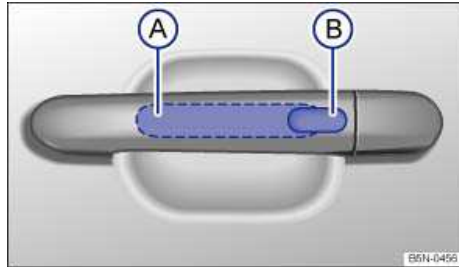

Fig. 28 Keyless Access system: Sensor for unlocking A on the inside of the front door handles. Sensor for locking B on the outside of the door handles.
All you have to do is touch a sensor surface on one of the outside door handles $\Rightarrow$ fig. 28 or push the Volkswagen emblem on the rear hatch $\Rightarrow$ *Rear hatch* when a valid remote control vehicle key is within range $\Rightarrow$ .
- Keyless Entry: Unlocking the vehicle with the sensor surfaces on the outside door handles of the driver or passenger door ⇒ fig. 28 \(A\) or by using the Volkswagen emblem on the rear hatch.
Remove your finger from the lock sensor surface ⇒ fig. 28 \(B\) to stop the function. If you touch the unlock sensor surface \(A\) on the inside of the door handle immediately after releasing the lock sensor surface \(B\) (arrow), all of the windows will open (safety function).